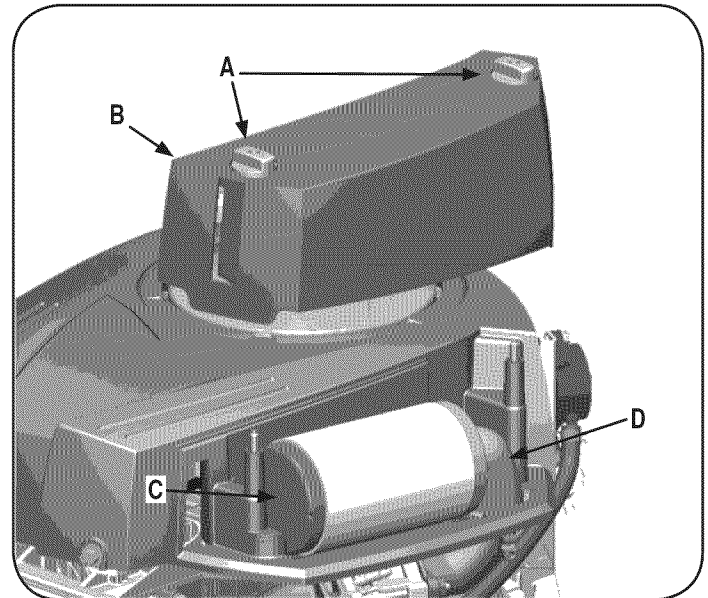

Figure 14
1. Remove the fasteners (A) and the air filter cover (B). See Figure 14.
2. To remove the filter (C), lift the end of the filter and then pull the filter off the intake (D).